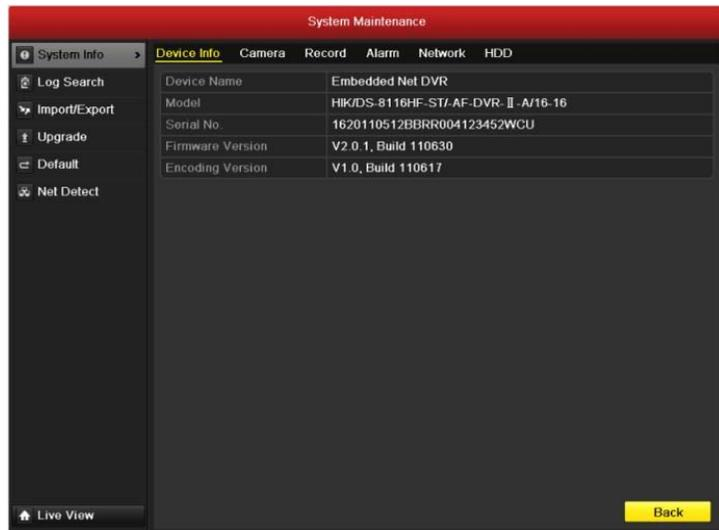

Figure 14.1 Device Information Interface
2. Click the **Device Info** tab to enter the Device Information menu to view the device name, model, serial No., firmware version and encode version, as shown in Figure 14.1.